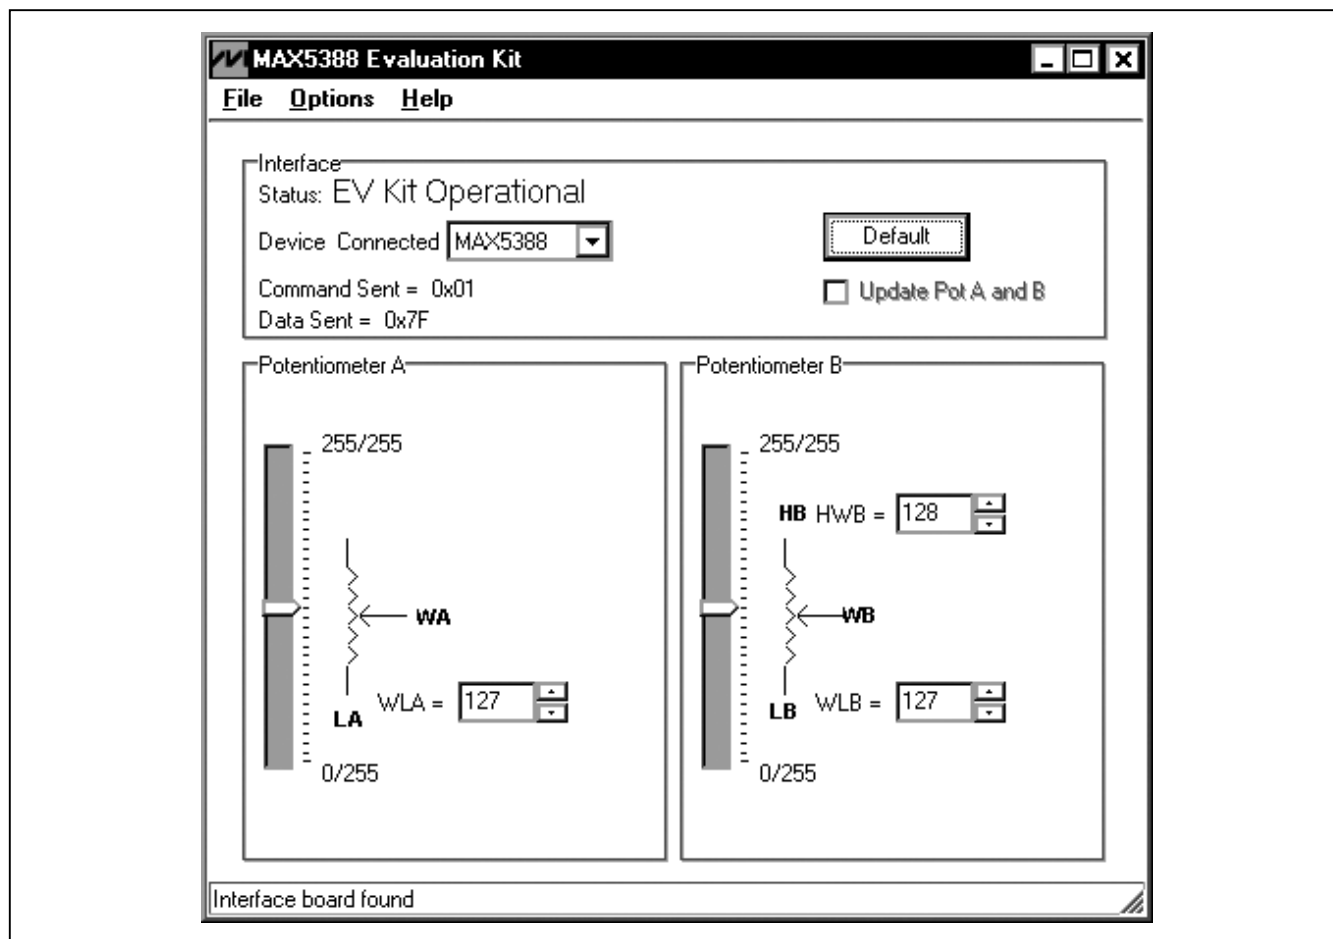

Figure 1. MAX5388 Evaluation Kit Software Main Window
- 10) Using the **Device Connected** combo box, select MAX5388 from the list and then press the **Default** button. The EV kit software main window appears, as shown in Figure 1.
The MAX5388 EV kit software GUI shown in Figure 1 is a Windows program that provides a convenient means to control the MAX5388 dual potentiometer. Use the mouse or press the Tab key to navigate through the GUI controls. The correct SPI write operations are generated to update the MAX5388 internal memory registers when any of these controls are executed.
There are two methods for communicating with the EV kit, through the normal user-interface panel (Figure 1) or through the advanced user interface available by selecting the **3-Wire Interface** (Figure 3) utility from the main program's **Options | Advanced User Interface** menu bar. A window is displayed that allows SPI send/receive data operations.